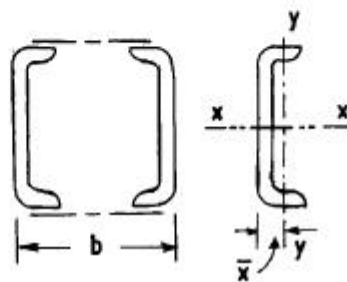

fig. 4
5. The effective length of a composite column shown in Fig. 4 is 5m. Obtain the dimension b so that the column has equal chances of buckling along the principal directions. Determine the safe load carrying capacity of the column. Take $E = 200$ GPa and factor of safety as 2.